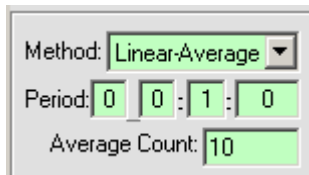

Figure 3.14
- **Linear-Average** - Data is sampled at a specified period but logged at a slower rate. Each logged linear data sample is the averaged value of the specified consecutive samples (2-250) that were acquired at the defined sampling rate. Figure 3.14 shows a test where the instrument will take a sample once per minute and log the average of 10 samples. In this example, an averaged reading would be logged once every 10 minutes.